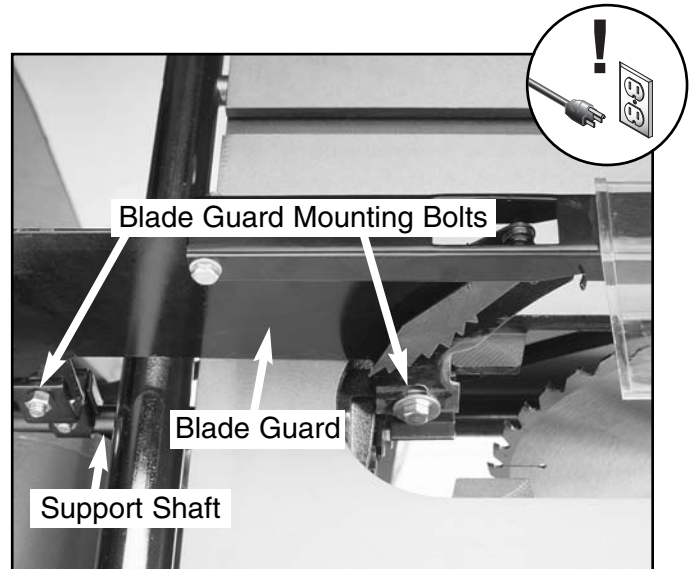

Figure 37. Blade guard components.
4. Slip the slots at the bottom of the guard over the two mounting bolts as shown in **Figure 37**. The washers should be between the bolt head and the slots.